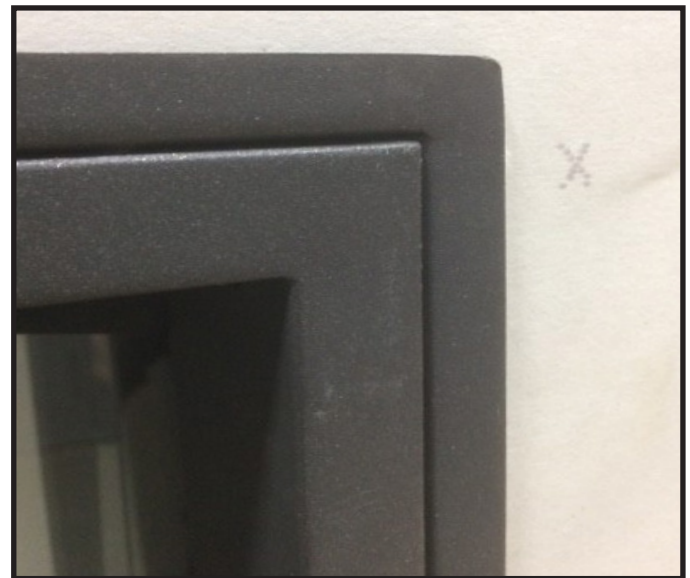

Figure 4.7 Front / Trim Ring Installed to Overlap Wall
- Overlap fit with Front / Trim Ring. See Figure 4.7.
9. The Trim Ring will overlap the stop of the finished wall. See Figure 4.7.